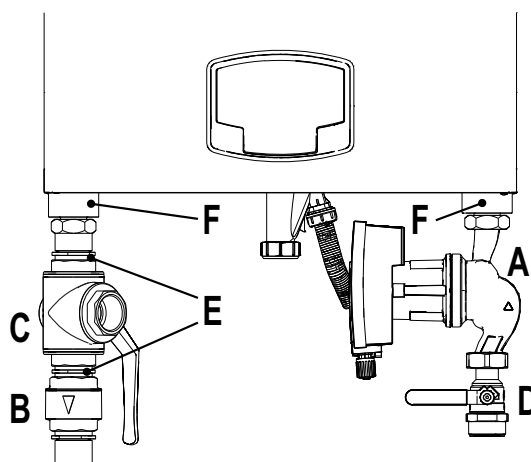

fig. 34- Boiler with installed kits
code 042070X0 - HIGH EFFICIENCY CIRCULATING PUMP KIT- 7m. (A - fig. 34)
code 042071X0 - HIGH EFFICIENCY CIRCULATING PUMP KIT- 10m. (A - fig. 34)
- 1 NON-RETURN VALVE - Female 1"1/2 (B - fig. 34)**
- 2 3-Way FAUCET - Female 1"1/2 (C - fig. 34)**
- 3 FAUCET Male/Female 1"1/2 (D - fig. 34)**
- 4 CONNECTION NIPPLE 1"1/2 (E - fig. 34)**
- 5 Flow and Return connection pipes 1"1/2 (F - fig. 34)**